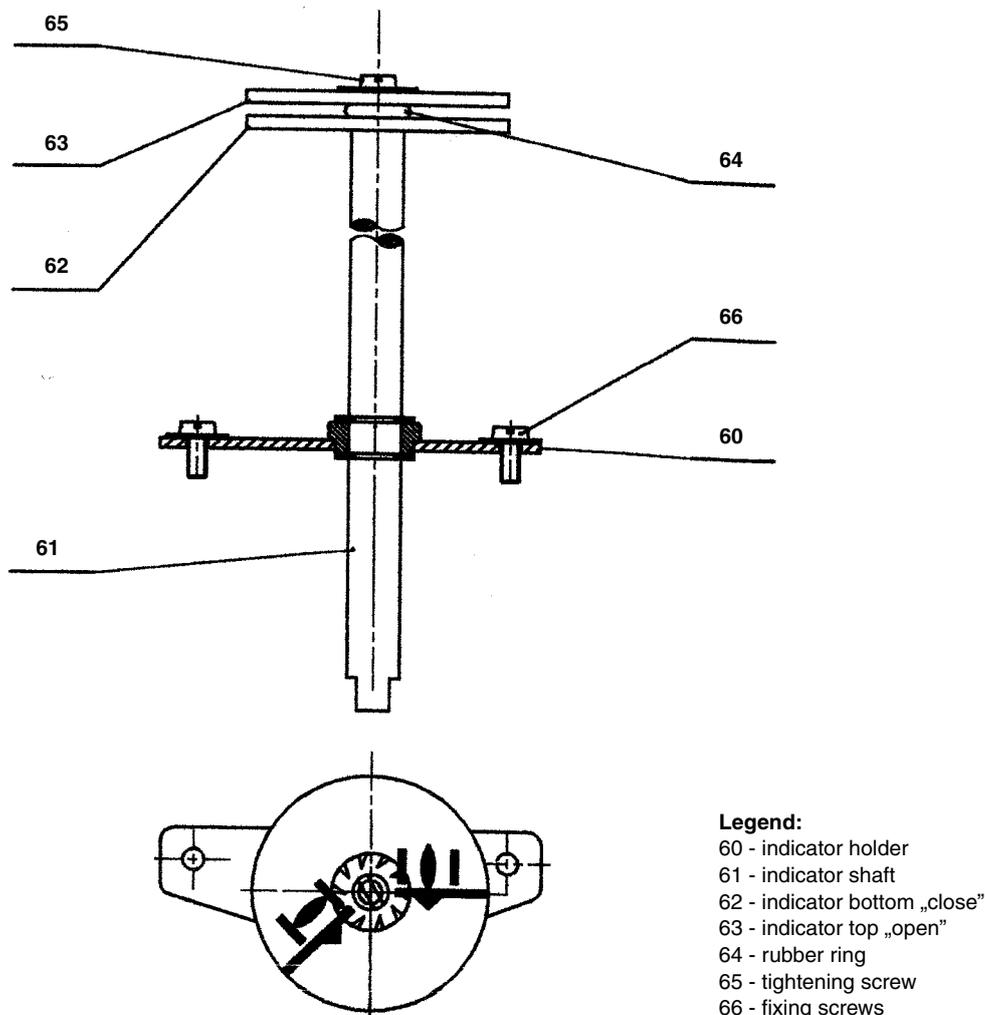

Fig. 6 – Indicator assembly
Before setting the position-limit switching and signalling unit, the assembly of the position indicator (Fig.6) should be removed by loosening the screws 66 to allow for access to the screws of cams 1, 2, 3, 4. After setting the unit, the indicator assembly is re-screwed and adjusted according to point d.
groove in the shaft of cams of this unit. In adjustment of the cams of the position-limit switching and signalling unit, the complete assembly of the indicator (Fig. 6) should be dismantled by loosening the fixing screws pos. 66.
First, set the output shaft of the actuator to the position "close" and detect position of the mark "close" in the sight hole of the fitted cover with respect to the mark on the sight hole. Remove the cover and set the mark "close" of the bottom indicator pos. 62 to this point according to Fig. 6 after loosening the screw pos. 65. After re-fitting the cover, check accuracy of setting the marks against each other and, if necessary, correct the position. Then, move the output shaft of the actuator to the position "open" and detect position of the mark "open" with respect to the mark on the sight hole. Remove the cover and set the mark "open" of the top indicator pos. 63 to this point and retighten the screw pos. 65. Care should be paid not to change the already set position of the bottom indicator "close". After fitting the cover, check once again accuracy of setting the marks against each other and, if necessary, correct the position. The indicator is now set for both limit positions.